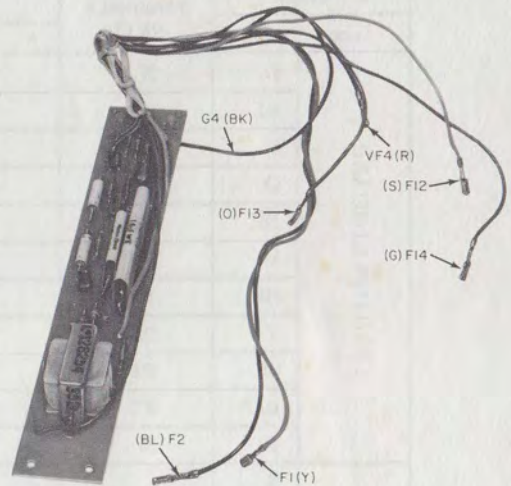

Fig. 5—KS-20721, List 14 Ring Supply
- Supply, Ring, KS-20721, L14 (Fig. 5)
**2.05** The List 14 ring supply (Fig. 5) provides a high voltage 20-Hz ringing signal to leads RU1 and CR to operate up to three CP ringers (C4 type or equivalent). The circuit consists of a dc to dc inverter supply and a relay driver. The inverter changes the 21V dc input to approximately 120V dc output. When ringing is present, the RU relay operates at a 20-Hz rate to alternate the polarity of the 120V dc output to provide the ringing signal. The List 14 ring supply is added to the List 1 coupler by providing option X as shown in Table A.